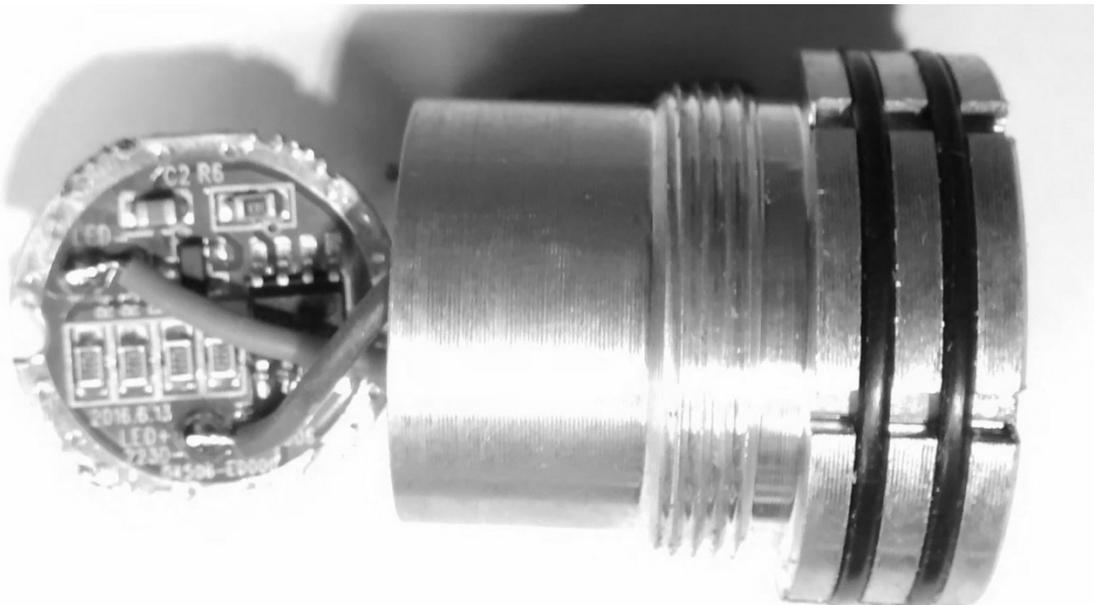

Figure 4 PCB Removed from LED Assembly
- Pry out the PCB from the back end of the LED assembly as shown in figure 4.
-Remove the 3 leaded SOT-523 surface mount part shown near the middle of the PCB in figure 4 and add solder to 2 of the now empty pads as shown in figure 5.
The PCB can now be reinstalled in the base of the LED assembly shown in figure 4. Once the PCB is re-installed I removed the spring contact that was soldered to the bottom in figure 8. I then attached 2 wires to the bottom that will be used for the 5 Volt power supply feed.